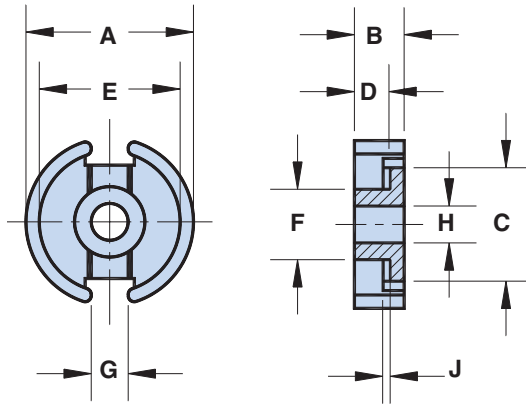

Figure 1
- Pot cores can also be gapped to an  $A_L$  value. These parts will be supplied as sets. Figure 1 pot core sets that have an airgap in one of the core halves will be marked with a white marking on the backwall. Pot core sets that are gapped symmetrically will not be marked.
- The pot cores shown in Figure 1 are in conformance with IEC 60133.